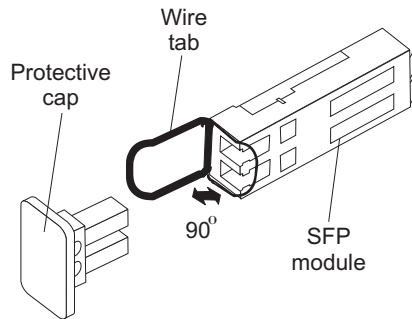

Figure 18. Unlocking the SFP module latch - wire variety
- For SFP modules that contain wire tabs, unlock the SFP module latch by pulling the wire latch outward 90°, as shown in Figure 18 on page 34.